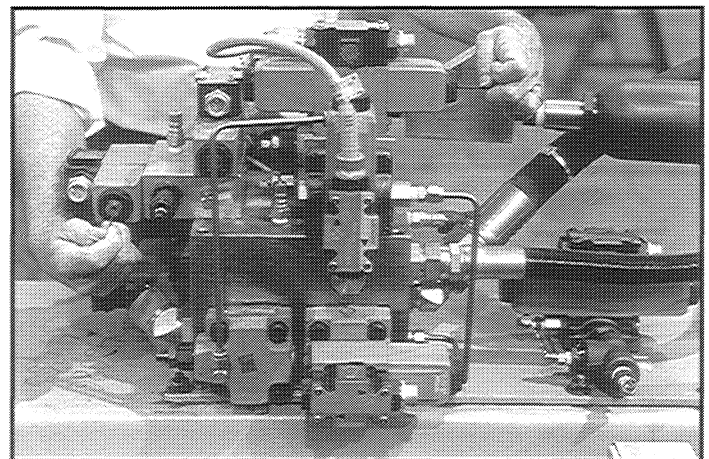

FIGURE 2-5 - Lube valve solenoid
- C. Manually energize lube valve solenoid. See Figure 2-5.